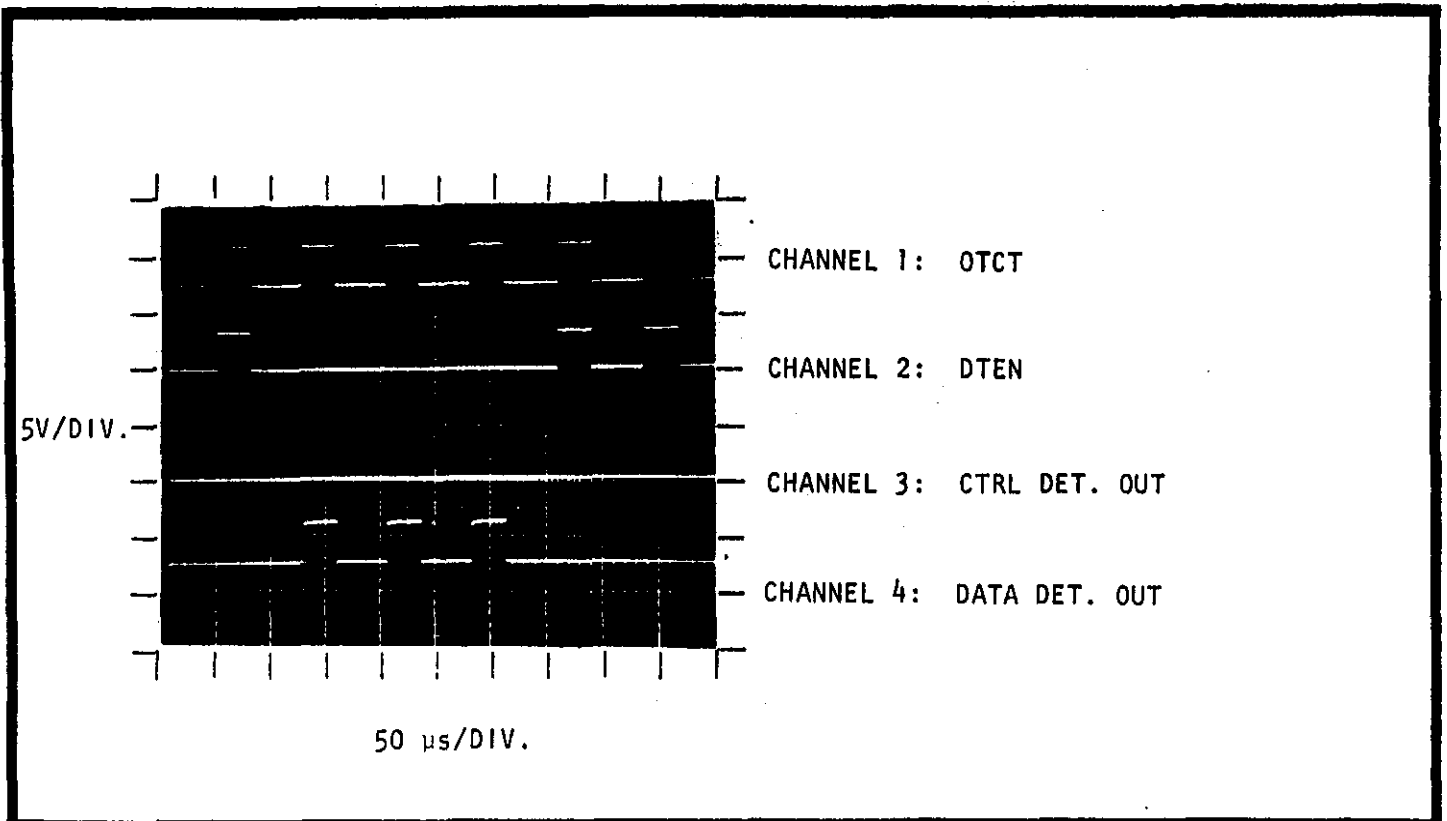

FIGURE 12. Trace for Test #4.
6. Verify that DTEN is present except during each execution of a IPDB instruction (three consecutive IPDB instructions as in this example), as shown in Figure 12.